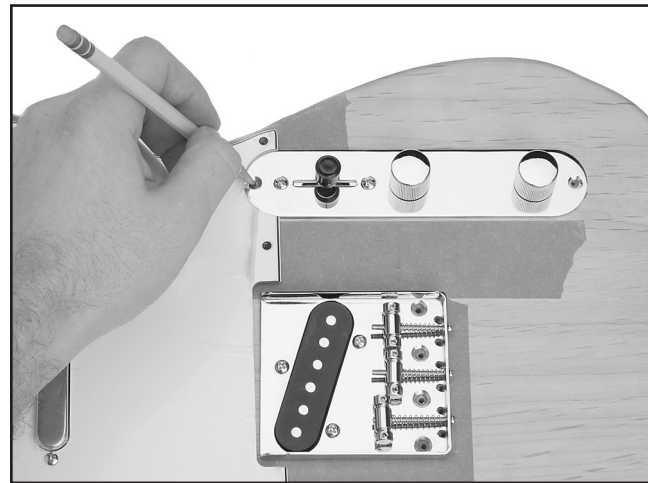

Figure 15. Marking control plate holes.
12. Mark the mounting holes for the control plate (**Figure 15**), pick guard, and bridge, then remove these components and the neck.